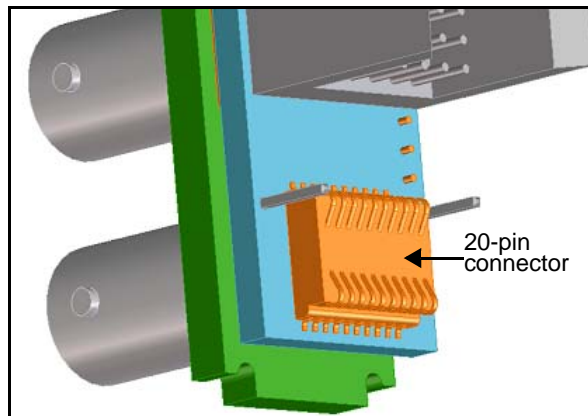

Figure A-1. Back Module to Front Module Connector
- c. View the 20-pin spring connector at the bottom of the back module. (See Figure A-1.)